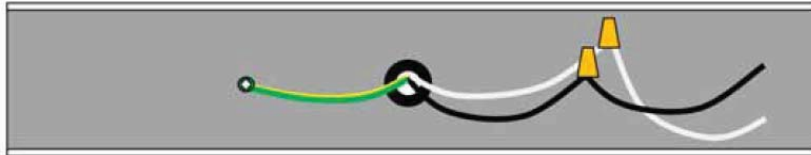

Figure 2
3. Attach ground wire (from power) to ground screws or if already attached, confirm the connection is solid. (Figure 2)